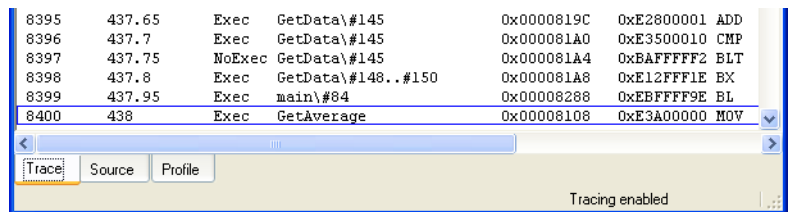

Figure 10-25 Searched function in Trace view
- Click **Find**. The first instance of `GetAverage` in the captured trace is selected. Figure 10-25 shows an example: